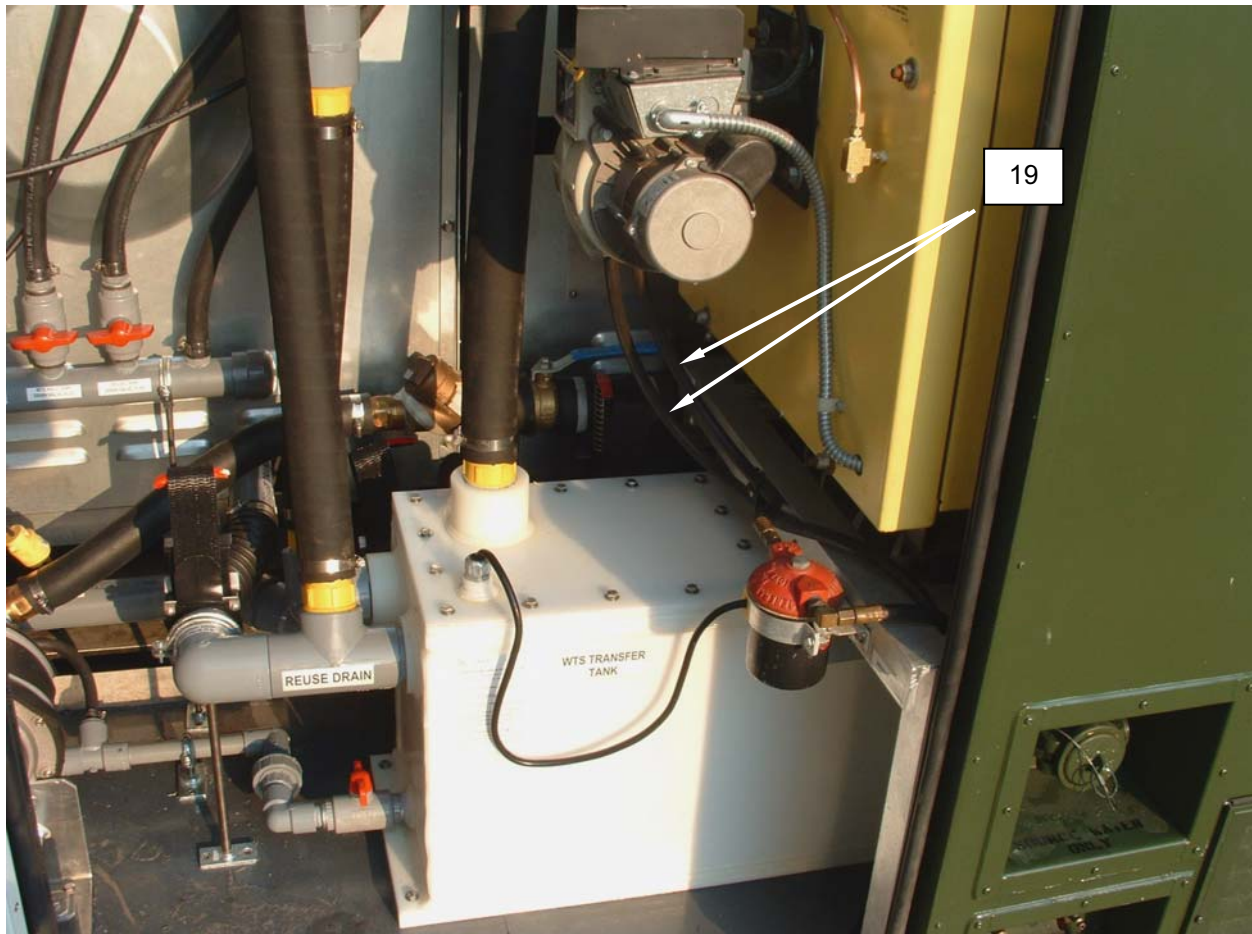

Figure 11. Replace the Fuel Hoses.
2. Tag and disconnect hoses (**Figure 11, Item 19**) from fuel pump and fuel fittings.
3. Install replacement hose set (**Figure 11, Item 19**) as tagged, and tighten fittings.